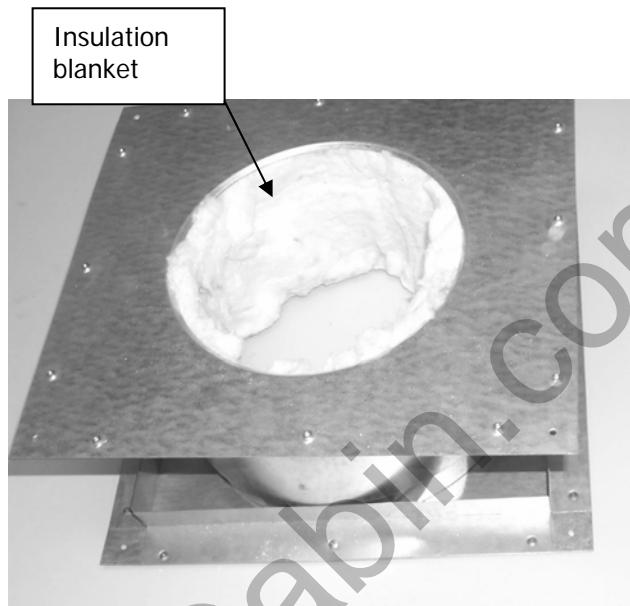

Figure 5: Wall thimble with insulation blanket
1. An insulation blanket is provided and must be added to any wall pass through (thimble) kit. This blanket is installed inside the wall pass through the thimble and wraps around the pipe that protrudes through the wall. (see *figure 5*) The blanket must extend the full-length, front to back, of the thimble.